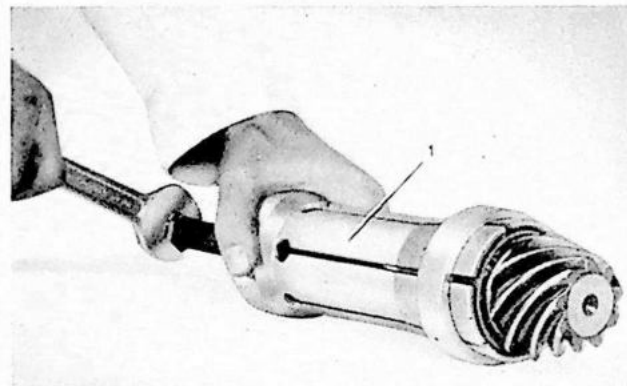

Fig. 25. Removing rear pinion bearing.
11. If necessary, pull the rear bearing (26) off the pinion (16) with puller SVO 2164, see fig. 25.